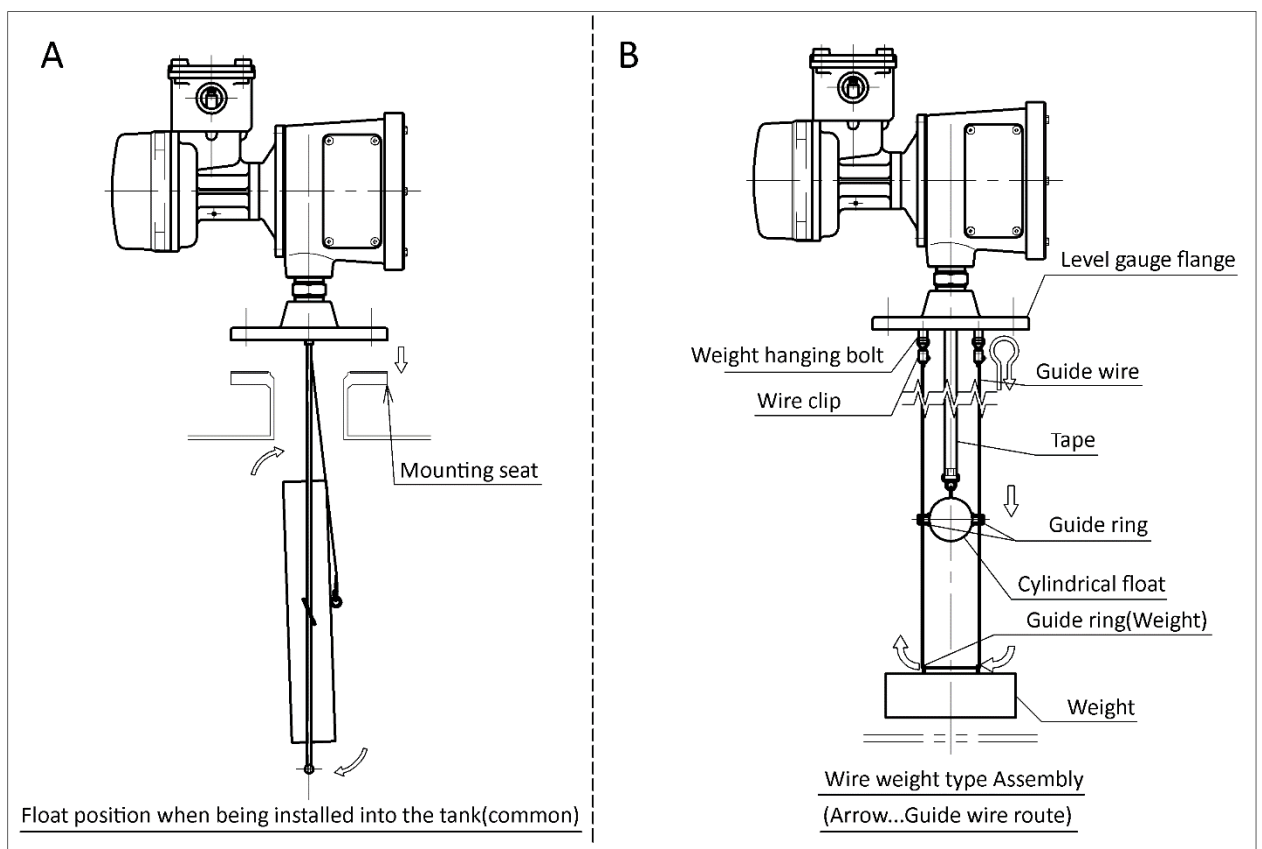

Figure 5. S type installation method – Wire weight assembly
- 4.3.5. When using a gasket, set it to the mounting seat beforehand, insert the assembled wetted part from the mounting seat by rotating the float as shown in the Figure 5-A, and fix the level gauge flange at the mounting seat by designated fastener component to finish the installation.
- 4.4.1. Assemble the wetted part of the level gauge. (Refer to Figure 5-B). Pass through the wire clip, pass one of the guide wire edge through one of the two weight hanging bolts at the bottom side of the level gauge flange, and pass it through the same wire clip again, then fix the wire and wire clip with torquing wire clip screw (M3 cross-recessed screw).
- 4.4.5. Insert the assembled wetted part from the mounting seat by rotating the float as shown in the Figure 5-A. Hold the tape by hand and let it down like reeling out by inches carefully